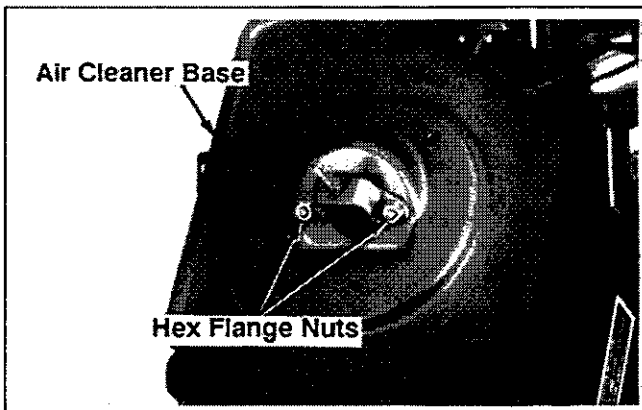

Figure 11-47. Installing Air Cleaner Base Plate.
2. Install the air cleaner base and gasket to the studs and torque the hex flange nuts to 9.9 N·m (88 lbf-in). See Figure 11-47.